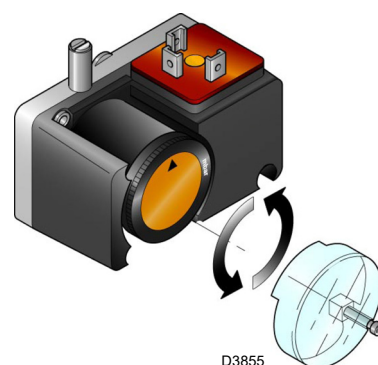

Fig. 34
- Adjust the minimum gas pressure switch (Fig. 34 at page 33) to the start of the scale.
Adjust the minimum gas pressure switch (Fig. 34) after having performed all other burner adjustments with the pressure switch set to the start of the scale.